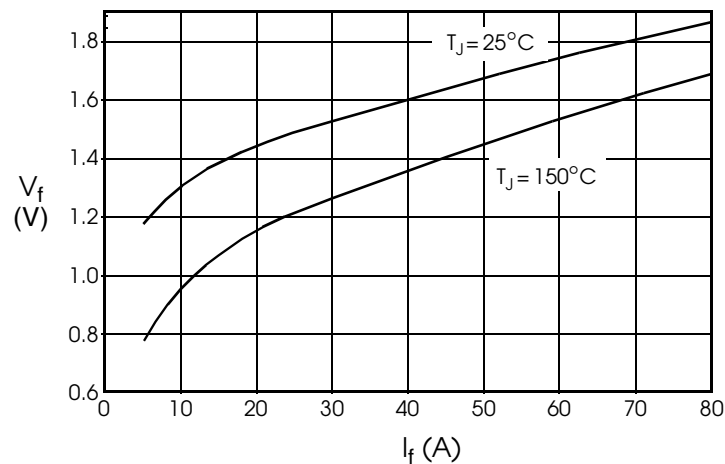

FIGURE 5 - DIODE VOLTAGE DROP VS. FORWARD CURRENT
- V_f = Commutation diode forward voltage from Figure 5